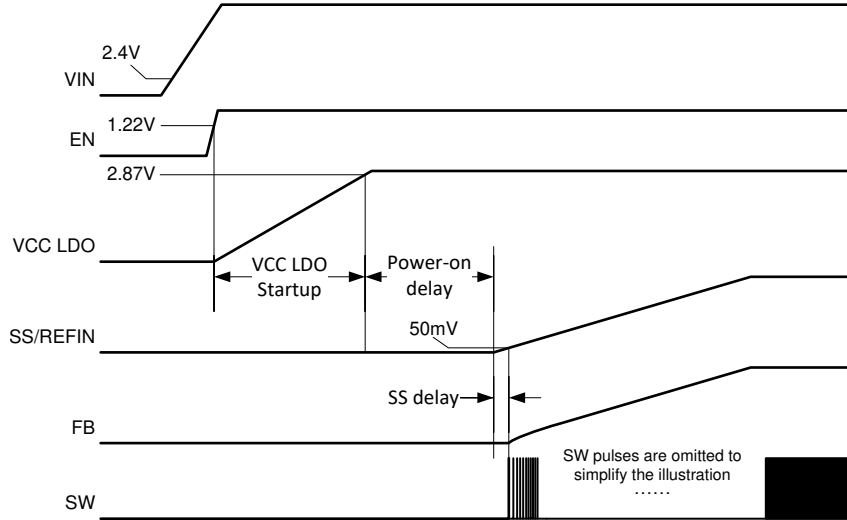

图 7-1. Internal Power-Up Sequence Using Internal LDO
**图 7-1** shows an example where the V_{IN} UVLO rising threshold is satisfied earlier than the EN rising threshold. In this scenario, the V_{CC} UVLO rising threshold becomes the gating signal to start the internal power-up sequence, and the sequence between V_{IN} and EN does not matter.